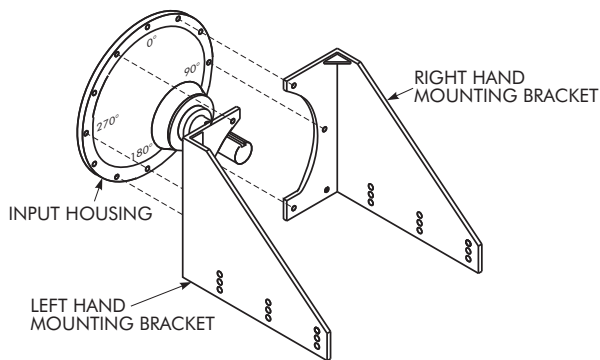
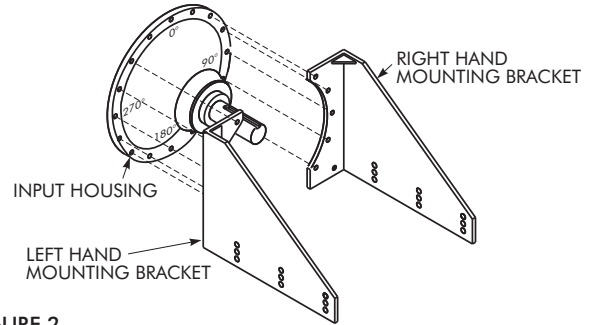

FIGURE 1
FIGURE 2
- Venus/Atlas/Luna/Earth/Polaris/Delta** — Remove 6 - 1/2" bolts from input shaft side as shown in Figure 1.
Neptune/Neptune Plus/Orion Plus/Saturn Plus/Titan Plus/Jupiter Plus — Remove 10 - 1/2" bolts from input shaft side as shown in Figure 2.
- Venus/Atlas/Earth/Polaris- Remove 6 - 1/2" bolts from input shaft side as shown in Figure 1 (Page 1). Neptune/Saturn/Titan/Jupiter - Remove 10 - 1/2" bolts from input shaft side as shown in Figure 2 (Page 1).